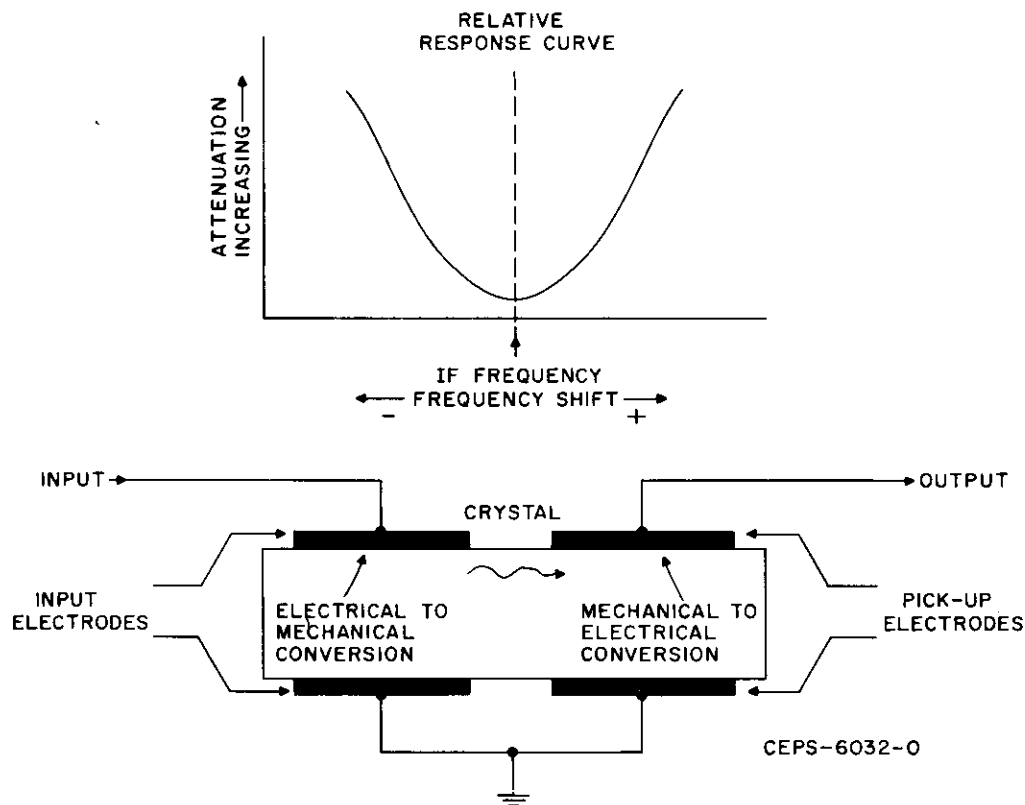

Figure 1. Simplified Piezoelectric Coupling Diagram
2.4.2 Refer to Figure 1. The high "Q" of the crystals create steep skirts which result in excellent on-channel intelligibility and off-channel signal rejection. The i-f circuitry requires no tuning and makes extensive use of shielding.